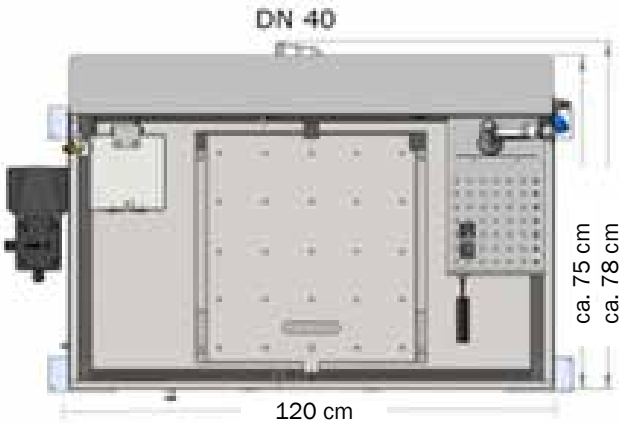

Fig. 2
- Clean the tools at the brush cleaning station (8) Fig. 2, 7